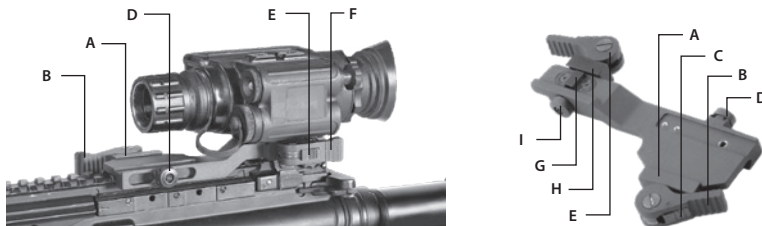

FIGURE 3-4. MOUNTING THE SPARK TO A WEAPON WITH A QUICK-RELEASE WEAPON MOUNT
To mount the Spark to a weapon using an optional quick-release weapon mount (QRM), perform the following (refer to Figure 3-4):
1. While pushing down on the lever holder (C), turn the lever (B) backwards to loosen the QRM clamping device (A).
2. Install the QRM on the weapon rail by inserting the stop (not shown in Figure 3-4) into one of transverse slots of the weapon rail.